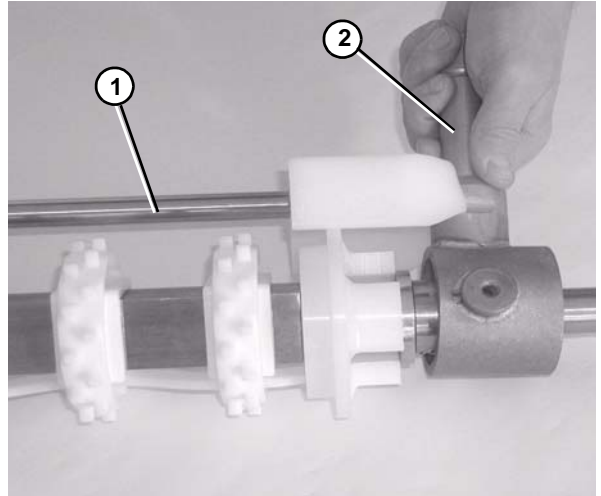

Figure 76
10. Attach the guard bar (**Figure 76, item 1**) to the bearing / motor mount bracket shafts (**Figure 76, item 2**).